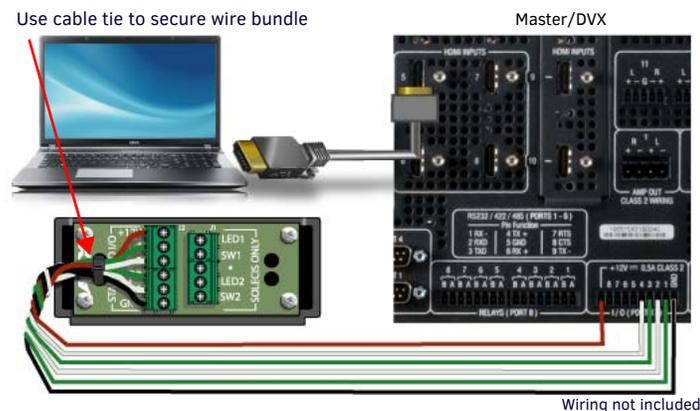

FIG. 2 WIRING I/O OUTPUTS TO NX MASTER OR DVX PRESENTATION SWITCHER
Connecting to an AMX NX Master, or a DVX presentation switcher is completed using the J2 6-pin screw-down terminal on the back of the 2-Button Keypad Module (FIG. 2).
The 2-Button Keypad Module connects to an AMX DVX Master or NetLink Controller using the GPIO interface as outlined in FIG. 2. The GPIO port delivers Power and Ground, and receives switch inputs (set/release). This solution requires NetLink programming to correlate a GPIO input event to switch to a predetermined DVX port.
1. Stretch the (optional) colored bands over the source end of the cables until they rest in the over mold channel (FIG. 2).
2. Once wires are connected, use a cable tie through the holes in the PCB to secure the cable and provide strain relief (FIG. 2).